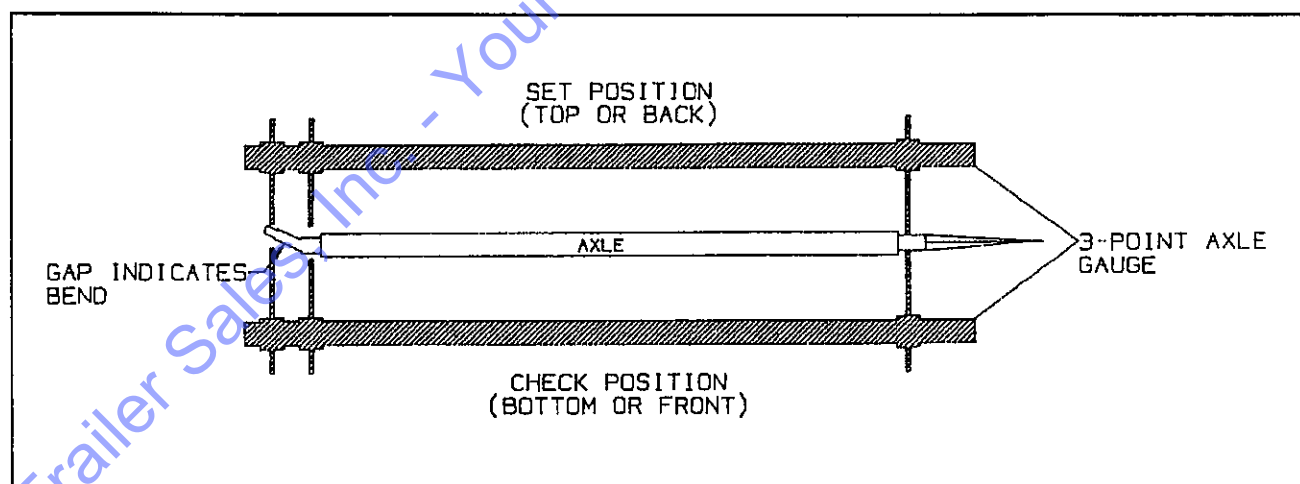

Figure 4-5 Checking Axle for Bend
- Place a 3-point axle gauge against the front side of the axle, and adjust each axle gauge point to the axle. (Double point end against the inner and outer wheel bearing surfaces of the spindle being checked and the other point on the inner bearing surface on the other spindle)(see Figure 4-5).
- Move the axle gauge and place against the back side of the axle. If either of the points of double point end fails to touch the axle surface, a bent spindle is evident. A point gap of .015" or more is considered excessive tire "toe" and the axle must be replaced (see Figure 4-5).